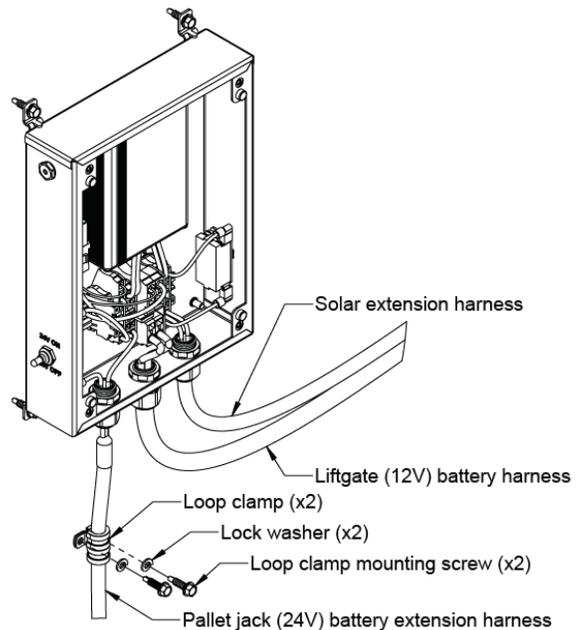

FIGURE 10
14. Mount the pallet jack battery extension harness from the unit to the wall using the loop clamps and remaining lock washers and self-drilling screws to ensure any harness strain is relieved by the loop clamps and not the unit. (Figure 10)